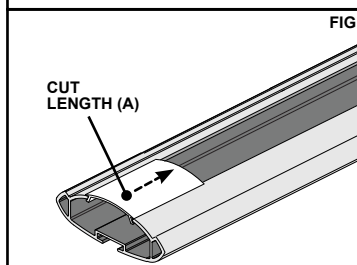

FIG 5
3. Slide 'Cut Length (A)' into the gap until it butts up against the end edge of the gap in Figure 5. Do this for all four Cross Bar over-hang endings.